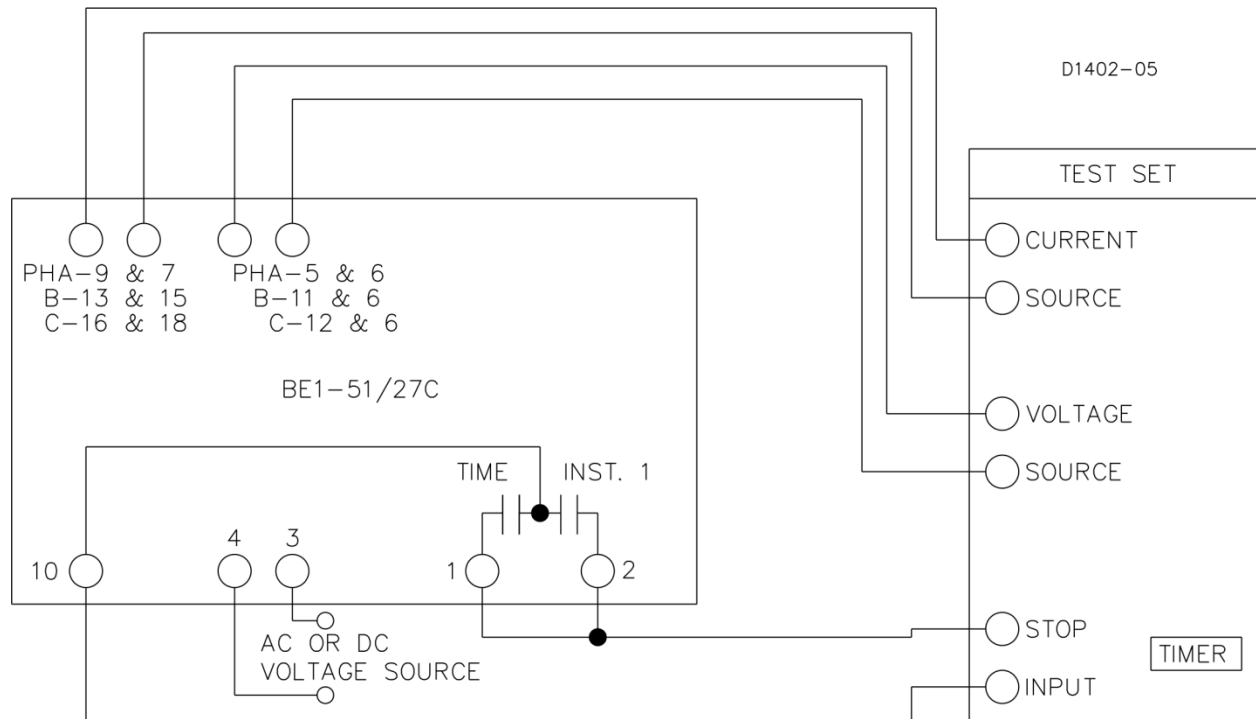

Figure 5-2. Test Setup for Sensing Input Type P (Three-Phase Sensing)
- (b) *Sensing Input Type P (Three-Phase Sensing)*. Refer to Figure 5-2.
(c) Sensing Input Type A and P (Three-Phase Sensing). Remove the power and reconnect the input sensing to each of the remaining phases as shown in Figures 5-2 and 5-4, each time repeating Steps 1 through 10.